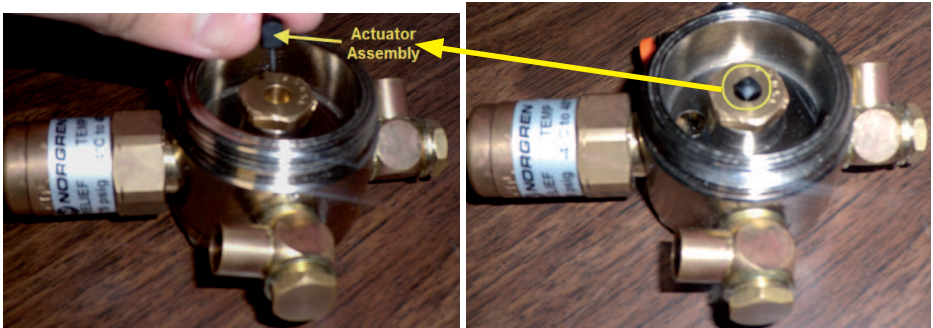

Figure 80 - Fit the Actuator Assembly
11. Fit the actuator assembly into the valve cartridge as shown in Figure 80.